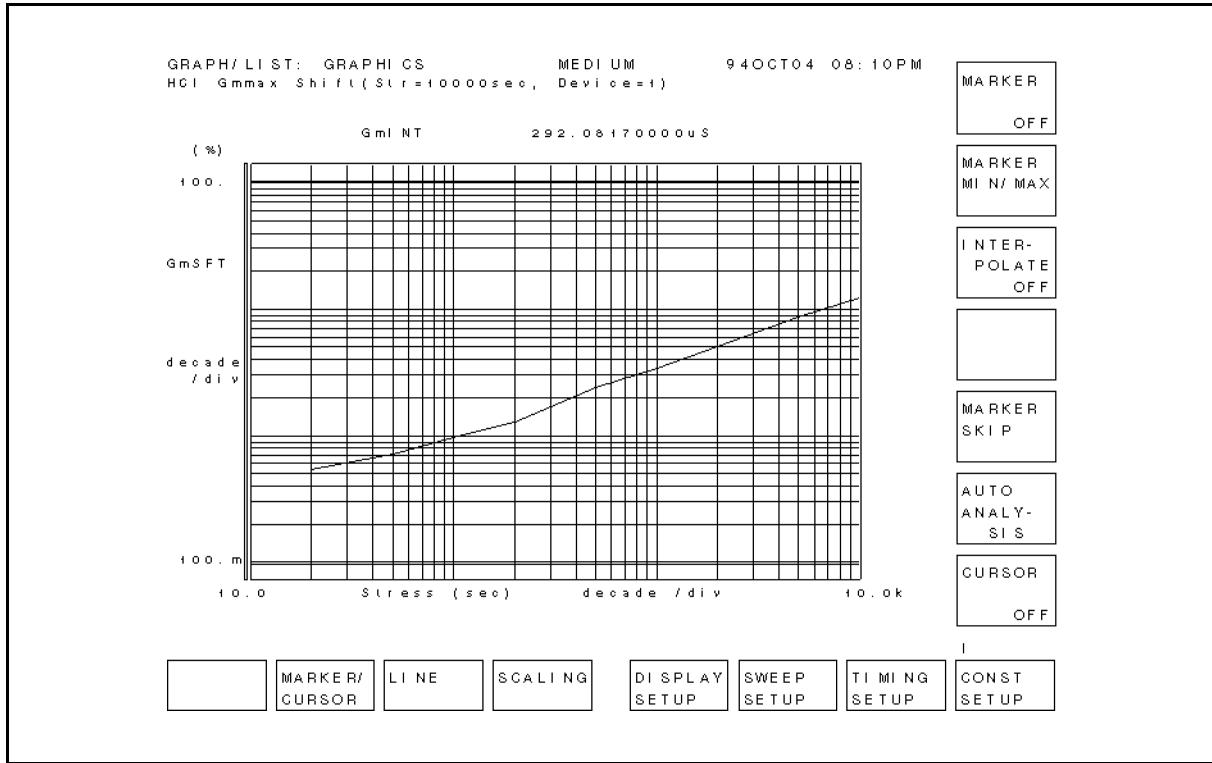

Figure 4-7. HCl Degradation Test Result Example
7. After each interim characterization, the fractional change in a parameter versus the stress time is displayed on GRAPHICS page of the HP 4155A/4156A as shown in Figure 4-7.